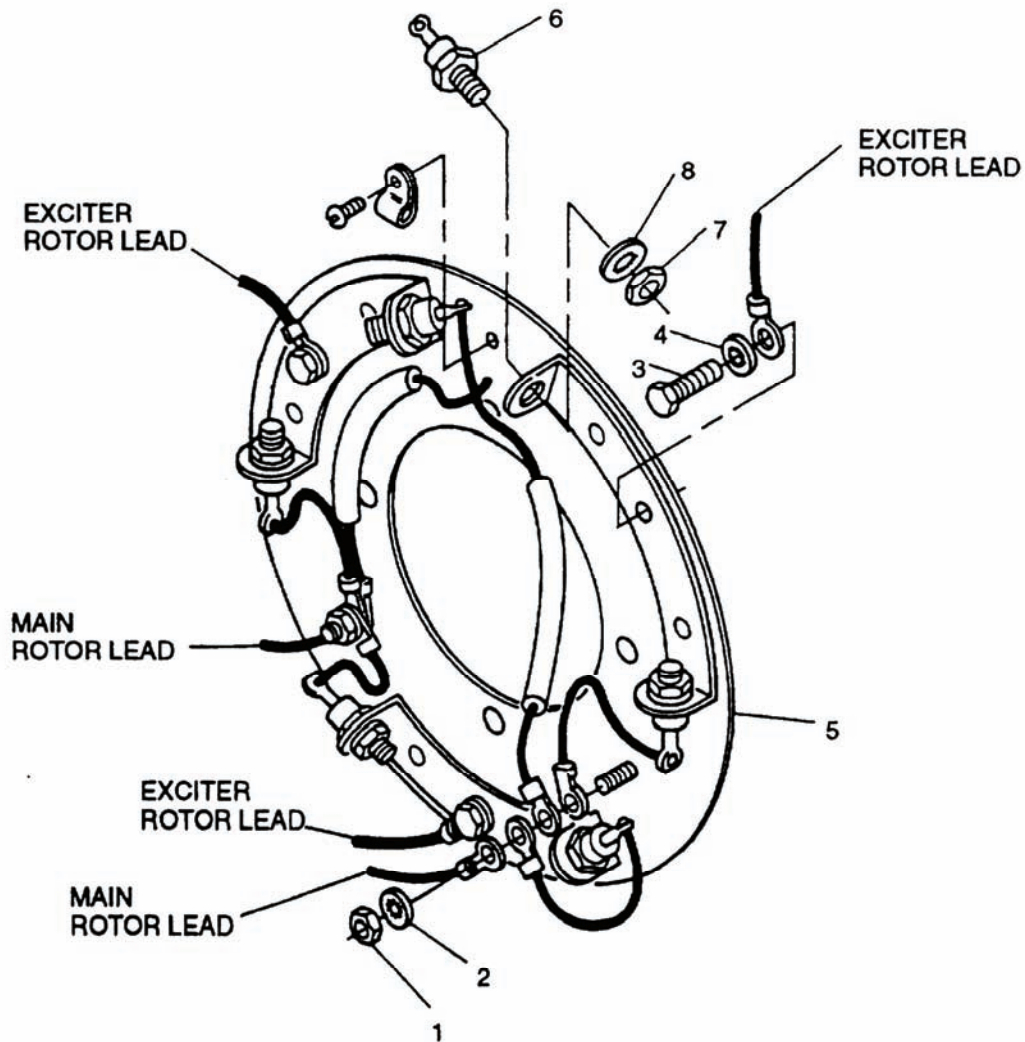
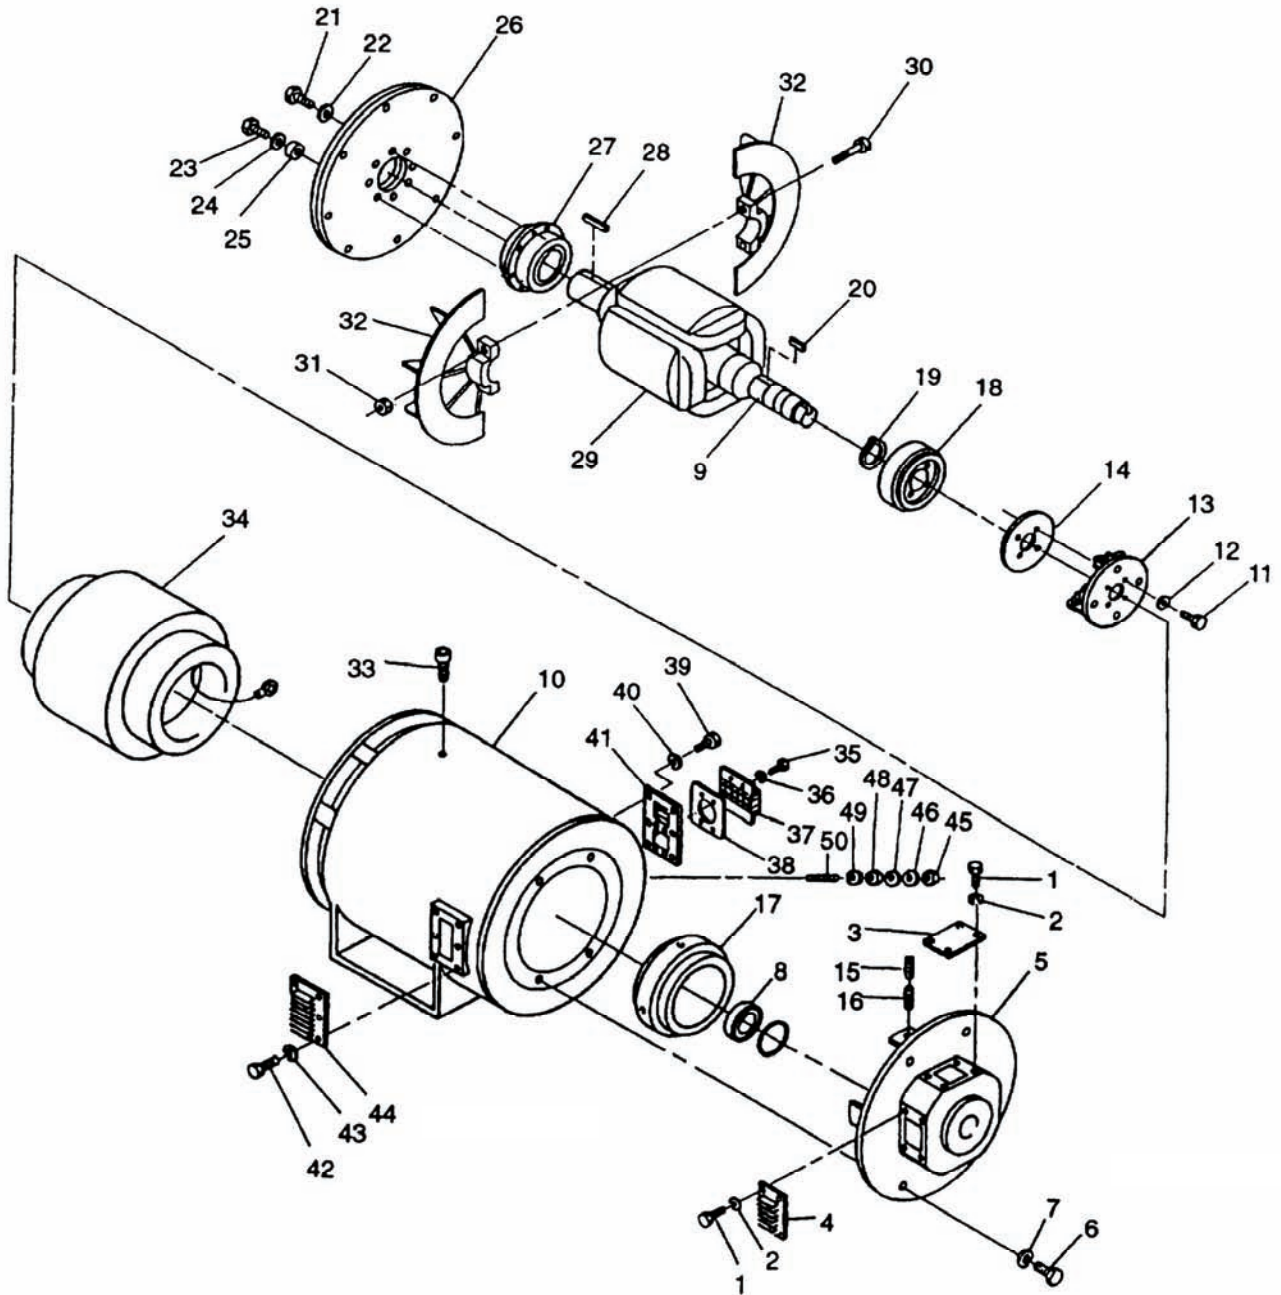

Figure 4-14. Rectifier Assembly – MEP-814A/MEP-814B.
Figure 4-15. Generator Assembly – MEP-814A/MEP-814B.
- e. Unsolder electrical lead from diode (6, Figure 4-14) being removed.
- e. Remove nuts (1, Figure 4-14) and lock washers (2) from rotating rectifier terminals. Discard lock washers (2).
- g. Tag exciter rotor leads and remove bolts (3), washers (4), and exciter rotor leads from rectifier mounting plate assemblies.
- a. Run bead of thermo compound (Item 8, Appendix C) around base of diode (6, Figure 4-14) prior to installing. Do not coat threads.
- b. Insert diode (6) through generator end bell access hole and install on rotating rectifier plate (5) with new lock washer (8) and nut (7) as marked during removal. Torque nut 28 to 30 in.-lbs (3.2 to 3.4 Nm).
- c. Using solder (Item 19, Appendix C) and soldering iron, solder electrical lead to diode (6).
- d. Remove bolts (1, Figure 4-15), lock washers (2), plates (3), and screens (4) from end bell (5). Discard lock washers (2).
- g. Loosen lead clamp assembly (37, Figure 4-15) clamping generator leads at side of generator housing. Ensure that wires F1 and F2 are free to slide in and out of generator housing.
- h. Remove end bell (5), with exciter stator (17) attached, by tightening bolts (6) evenly into backout holes.
- a. Install new bearing (8, Figure 4-15). Ensure that bearing is seated squarely against shaft (9) shoulder by applying pressure to inner race only.
- b. Position bearing (8) in end bell (5).
- e. Remove bolts (3, Figure 4-14) and lock washers (4) securing exciter rotor leads (3 places) to rotating rectifier. Tag and remove exciter rotor leads. Discard lock washers (4).
- f. Remove nuts (1) and lock washers (2) securing generator rotor leads (2 places) to rotating rectifier. Tag and remove generator rotor leads. Discard lock washers (2).
- g. Remove bolts (11, Figure 4-15), lock washers (12), and rotating rectifier (13) from rectifier hub (14). Discard lock washers (12).
- a. Install rotating rectifier (13, Figure 4-15) on rectifier hub (14) with bolts (11) and new lock washers (12).
- b. Connect two generator rotor leads to rotating rectifier with nuts (1, Figure 4-14) and new lock washers (2). Remove tags.
- c. Connect three exciter rotor leads to rotating rectifier with bolts (3) and new lock washers (4).
- g. Remove setscrews (15 and 16, Figure 4-15) and exciter stator (17) from end bell (5).
- h. Detach "fish wires" once leads F1 and F2 clear generator housing (10).
- a. Attach "fish wires" to leads F1 and F2 of exciter stator (17, Figure 4-15).
- c. Position exciter stator (17) in end bell (5) and secure in place with setscrews (15 and 16).